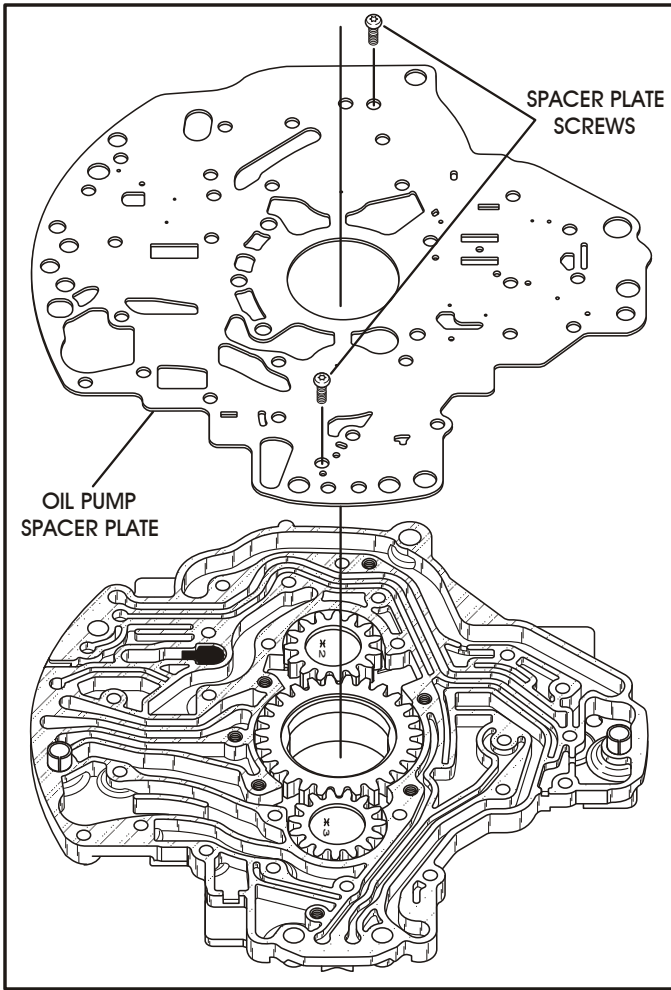

Figure 92
12. Install the oil pump spacer plate onto the pump body over the dowels as shown in Figure 92.
13. Install the two screws to retain the spacer plate on the pump and torque to 4.5 Nm (40 in lbs). Refer to Figure 92.